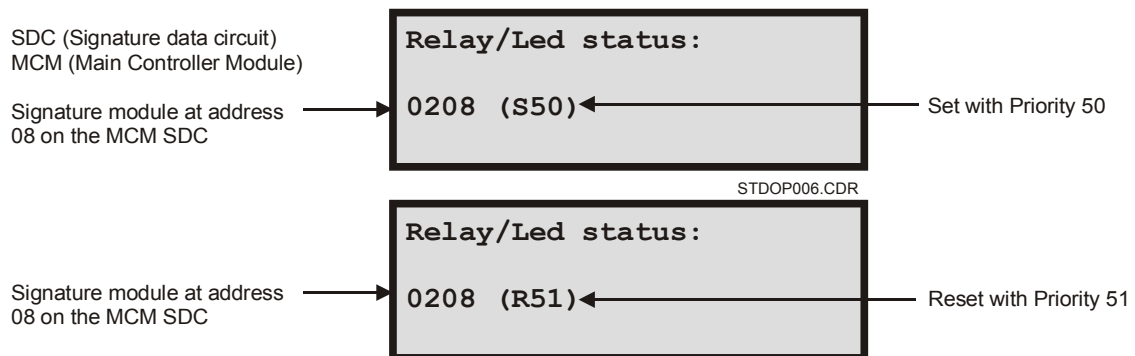

Figure 2-8: Typical LED/relay status screens
3. Press Enter until you see the Relay/LED status screen (Figure 2-8).